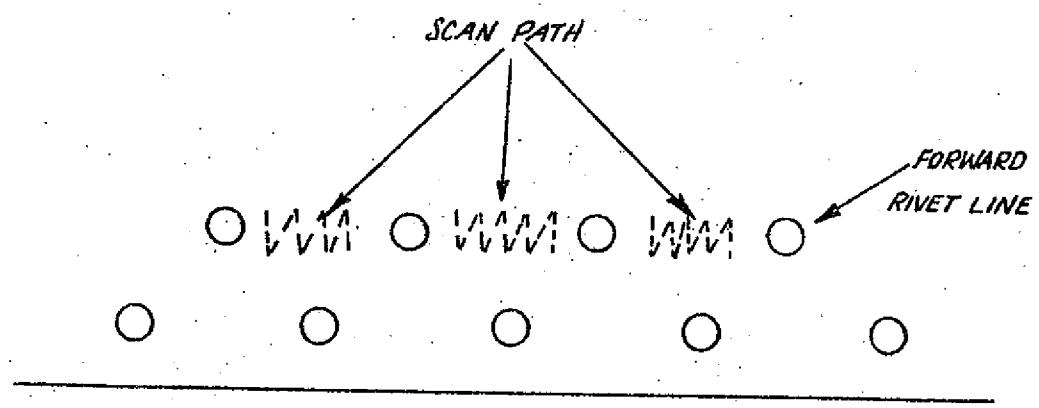

Fig. 3
- (1) Position probe on mainplane skin forward of area of examination and balance equipment.
- (2) Move probe to examination area.
- (3) Scan in zigzag pattern between rivets keeping probe approximately 1/8 inch from rivet heads (see Additional Information para 10 and Fig 3).